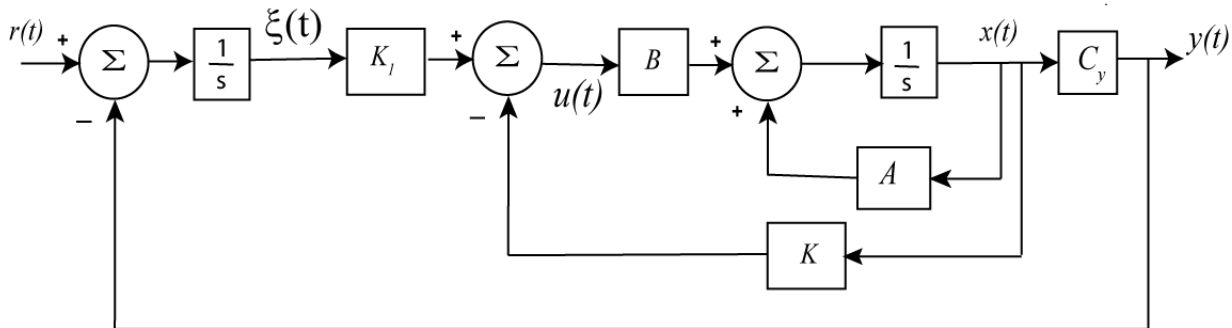

Figure 1. Integral control structure.
a) Copy your program **Basic_1dof_State_Variable_Model_driver.m** to a new file **sv1_integral_driver.m**, then copy the Simulink file **Basic_1dof_State_Variable_Model.mdl** to **sv1_integral.mdl**. Modify these new files to implement state variable feedback using integral control. The basic integral control scheme is shown below in Figure 1. Note that the prefilter is equal to 1.